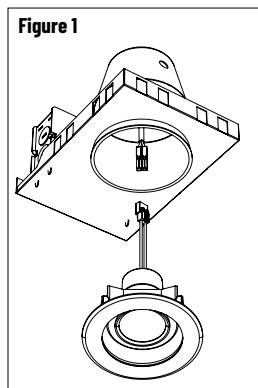

Figure 1
1. Disconnect luminaire from housing. (Figure 1)